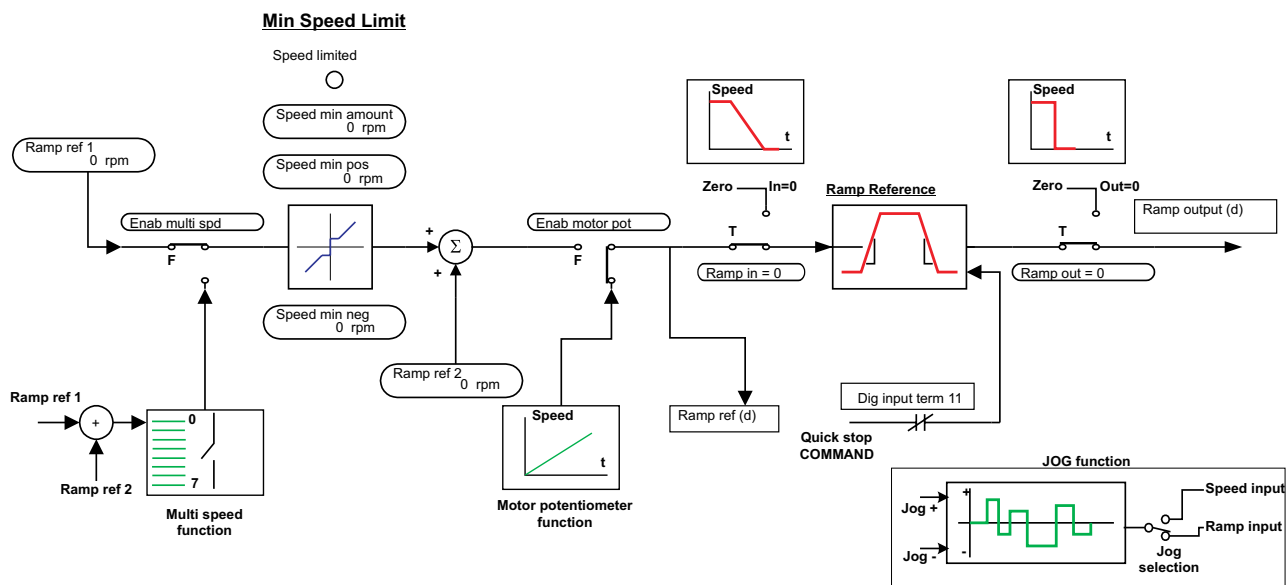

Figure 6.4.1.1: Ramp references
- Ramp ref 1** 1st reference value for the ramp. The value to be entered depends on the factor function.
- Ramp ref 1 (%)** 1st reference value as a percentage of the **Speed base value**
- Ramp ref 2** 2nd reference value for the ramp. The value to be entered depends on the factor function.
- Ramp ref 2 (%)** 2nd reference value as a percentage of the **Speed base value**
The total Ramp reference value **Ramp ref** consists of the signed addition of **Ramp ref 1** and **Ramp ref 2** (see Figure 6.4.1.1).